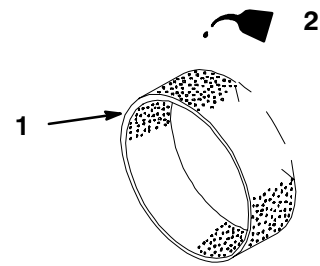

Figure 20
- C. Put one or two ounces of oil on the element (Fig. 20). Squeeze the element to distribute the oil.